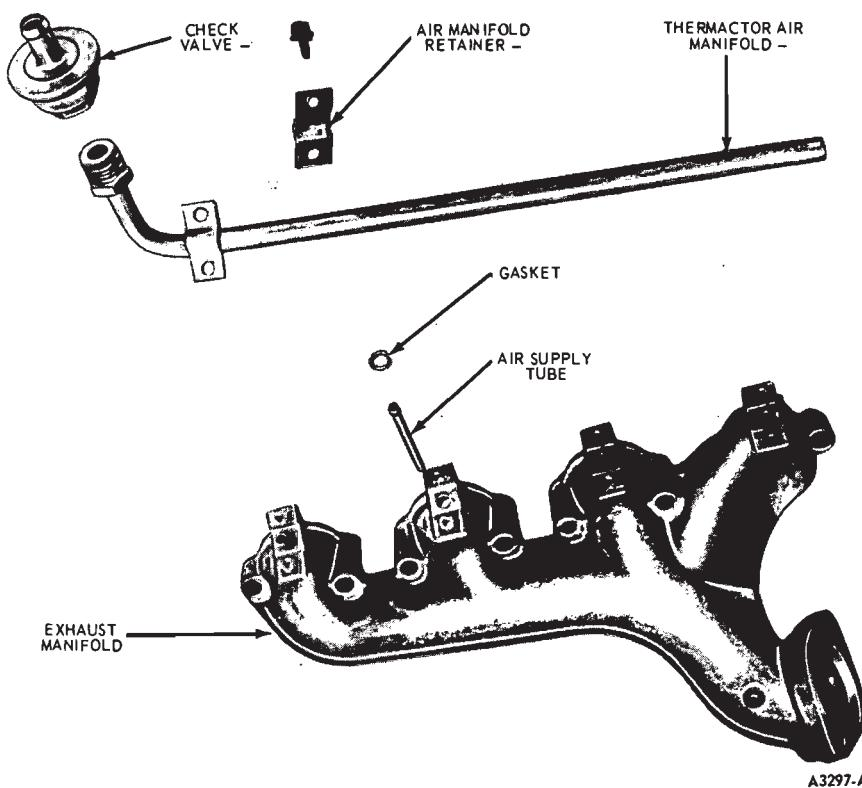

FIG. 6—Exhaust Manifold and Related Thermactor Parts—429 BOSS
1. Position the four Thermactor manifold delivery tubes in the exhaust manifold (Fig. 6).